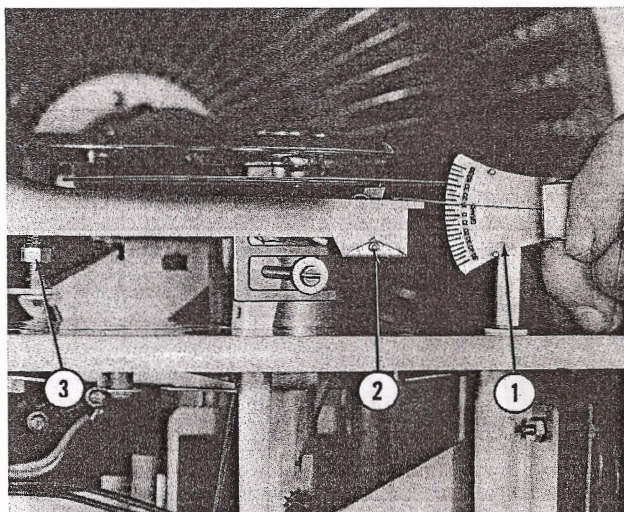

Fig. 79. NEEDLE PRESSURE ADJUSTMENT
(3) Needle pressure adjustment may be accomplished by turning the stop nut (Fig. 79, Item 3) to vary the spring tension on the tone arm. With a record in play position and the power off, use a gram scale such as Graybar 70-D, measuring, at the end of the tone arm, the pressure needed to just pull the needle off the record (Fig. 79, Items 1 and 2). The recommended needle pressure on the "Cobra" pick up should be 10 to 12 grams and on the Sonotone Stereo needle it should be 4 to 5 grams.